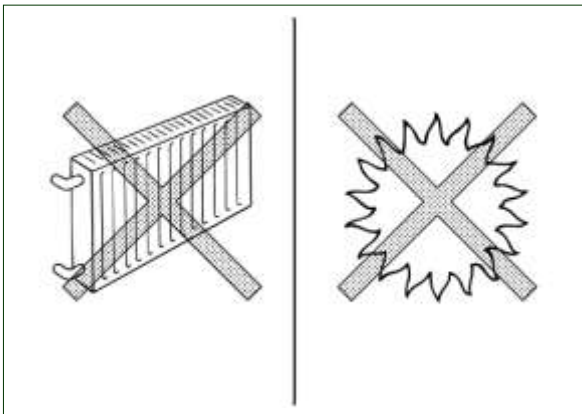

Fig. 1
- Do not install the cabinet in the vicinity of heating radiators or other heat sources. Do not install the cabinet where it is exposed to direct sun light (e.g. through windows) (fig. 1).